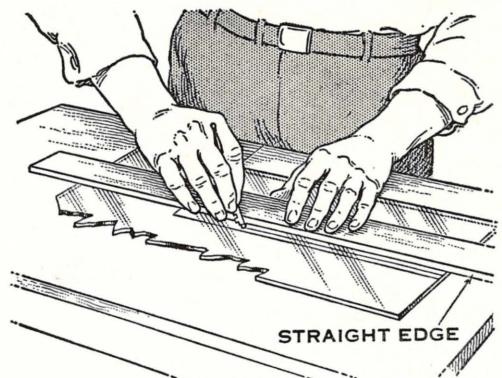

Fig. 483—It requires a little practice to cut glass successfully
2. Spread the pattern on a flat table top and lay the glass over it. If the glass is not absolutely flat, the hollow side should be up. When it is necessary to cut only two edges of the glass, lay the good edges on the lines of the pattern. (See Fig. 483.)